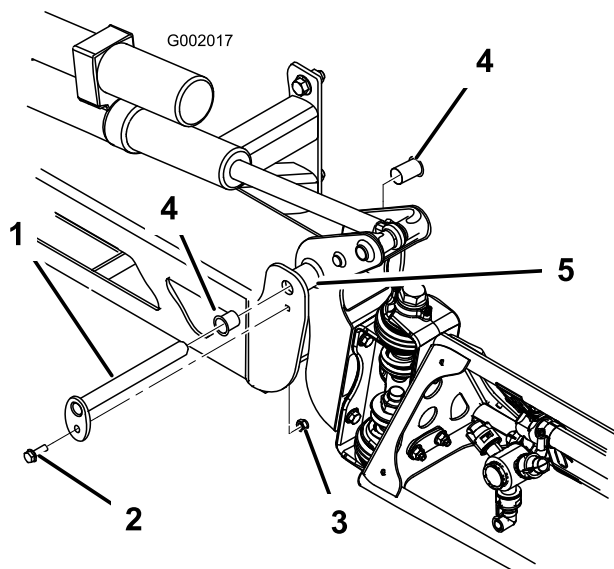

Figure 70
3. With the weight of the boom supported, remove the bolt and nut securing the pivot pin to the boom assembly (Figure 70). Remove the pivot pin.
5. Remove and inspect the nylon bushings from the front and back sides of the pivot bracket (Figure 70). Replace any damaged bushings.
7. Install the boom and pivot bracket assembly into the center frame, aligning the openings (Figure 70).